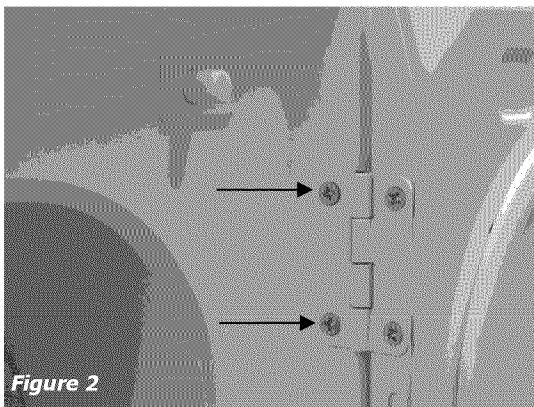

Figure 2
- 2 Begin removing the four screws that attach the hinge to the front panel. (Figure 2) Start by only removing one screw per hinge. Then only loosen the two remaining screws while firmly holding the door to prevent damage to hinge, front panel or door. After the remaining screws are loosened continue to remove all.